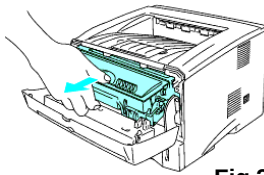

Fig 2
2. Pull out the drum & toner assembly towards yourself. (Fig 2)